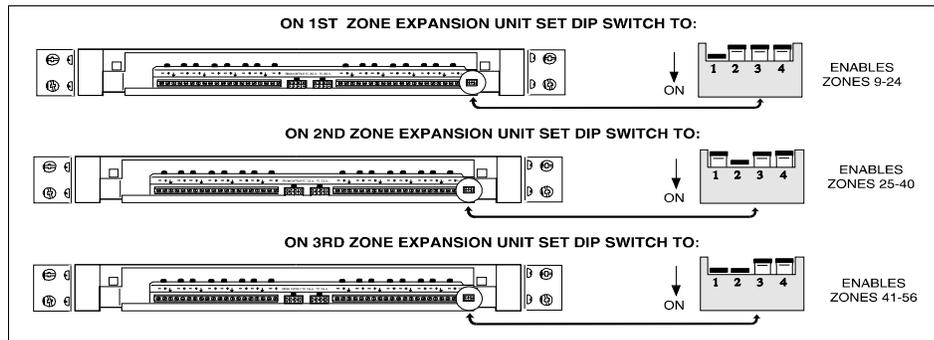

Figure 8. Setting Zone Expansion Unit DIP Switches
3. Set DIP switches on each Zone Expansion Unit, if any. See Figure 8.